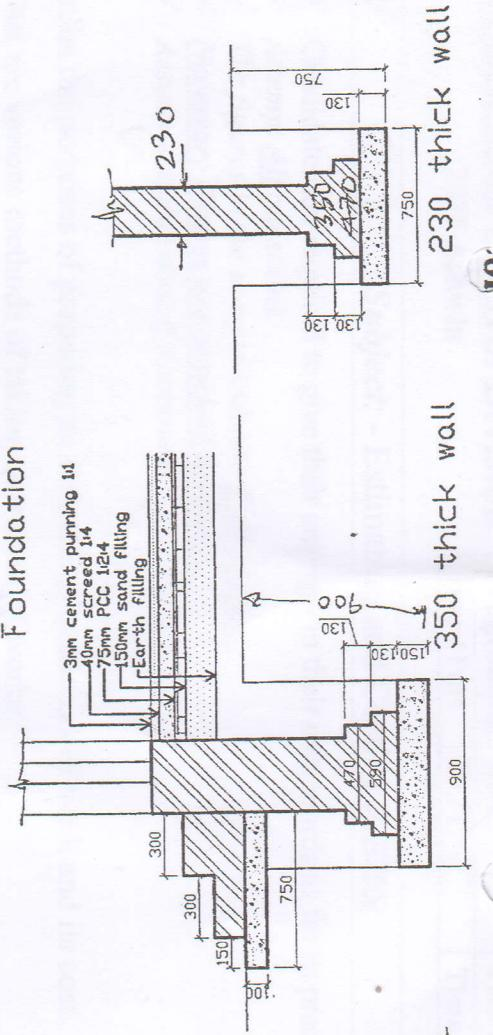

Fig: 1
9. Prepare detailed estimate of the following items of work for a building from the attached Fig.1. [4×3]
8. Find the quantity of the following from attached drawing. (fig. 1) [3x4]